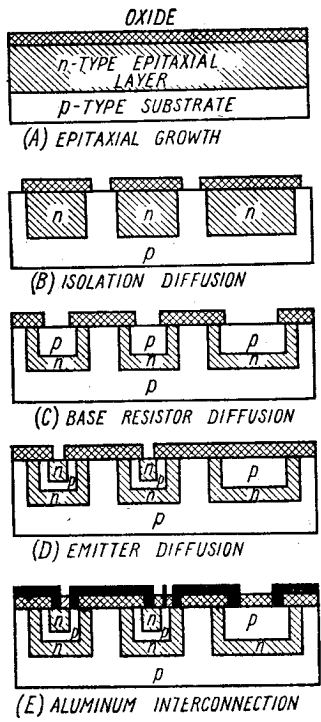

Fig. 26. Processing steps used to fabricate the circuit in Fig. 25
5. The basic processing steps for producing the four-layer epitaxial IC structure are illustrated sequentially in Fig. 26. The process combines a number of photoresist and diffusion steps in conjunction with the characteristic property of silicon oxide to resist diffusion.
6. The processing of the IC begins with the growth of an *n*-type epitaxial layer on top of a *p*-type substrate (A). In this technique all elements are formed in the epitaxial layer. During growth of the epitaxial layer a protective layer of silicon oxide is formed on top of the device. This oxide is essentially impervious to the diffusion of impurities.
7. By selectively opening windows in the oxide, impurities can be introduced to selected areas of the chip to form essential parts of the circuit. After opening up windows in the oxide, the next step is the formation of isolated islands in the *n*-type region. This is done by diffusing a heavy concentration of *p*-type impurities through the epitaxial layer until the *p*-type substrate is encountered (B).